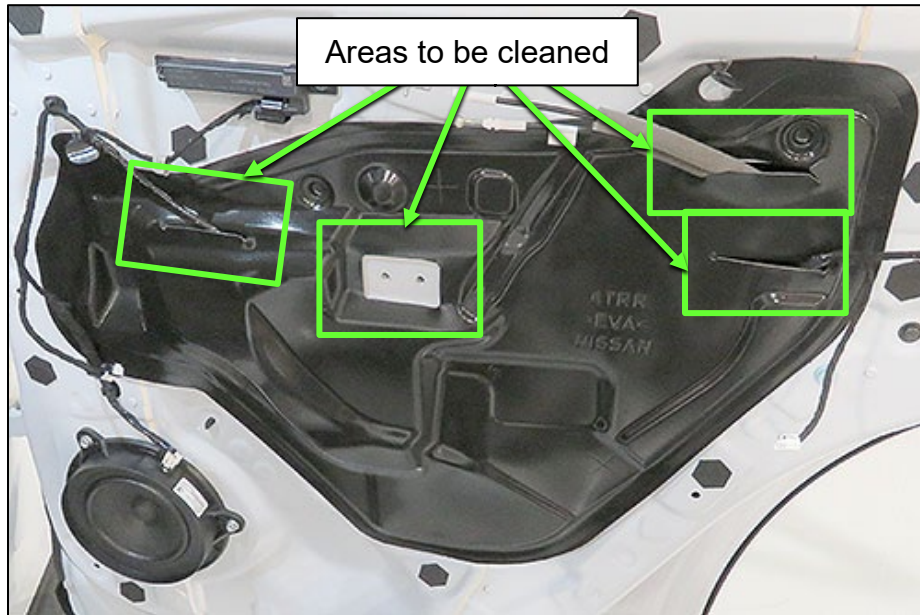

Figure 11
14. Use 80-220 grit sandpaper to scuff the four (4) areas shown in Figure 11.
15. Clean the door seal surface in the four (4) areas shown in Figure 11 with alcohol.